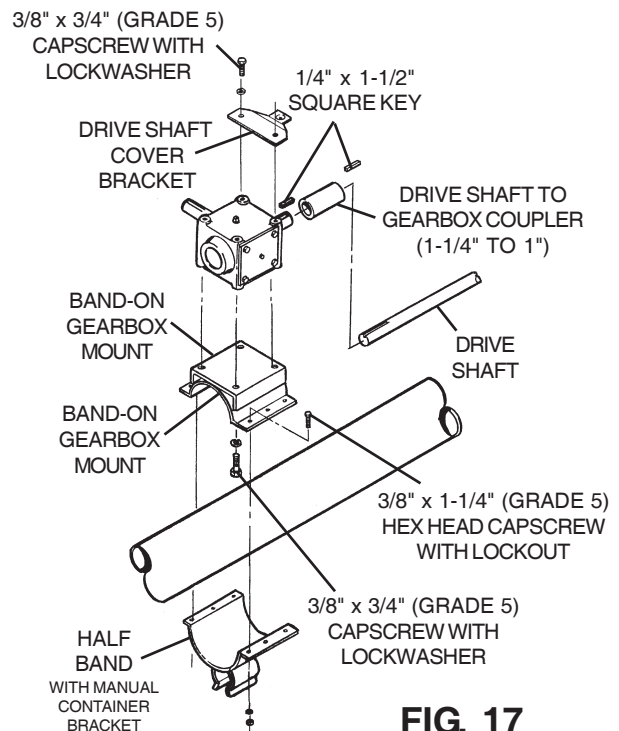

FIG. 17
Step 3. Set gearbox on auger and connect to drive shaft with coupler and two 1/4" x 1-1/2" long square keys. (See Fig. 17.)